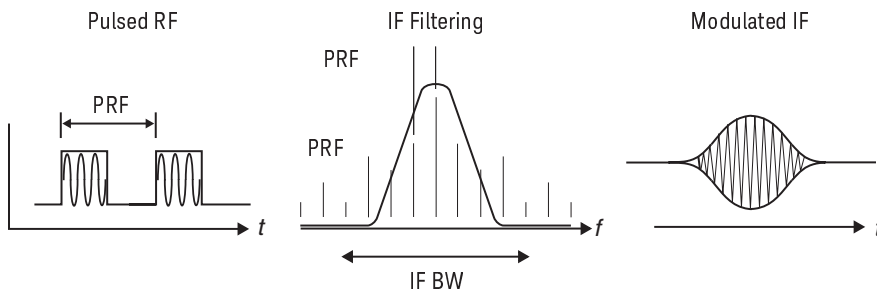

Figure 6. When the PRF is less than the IF bandwidth, pulse sidebands are measured in addition to the center spectral line.
1. The first case is when the PRF of the pulse is less than the IF BW of the analyzer. When the PRF is less than the receiver's IF BW, the pulse sidebands pass through the IF filter and the modulated RF (the pulse) cannot be measured (Figure 6). So for pulsed measurements with a PRF less than the IF BW of the analyzer, a standard network analyzer will give inaccurate results.